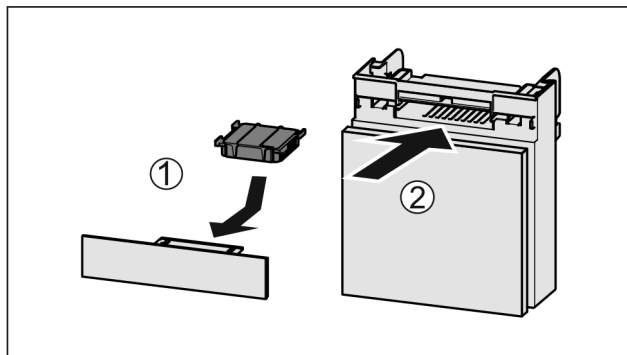

Fig. 130
- ▶ Insert the carbon filter as shown in the diagram *Fig. 130 (1)*.
- ▶ Push the compartment in *Fig. 130 (2)*.